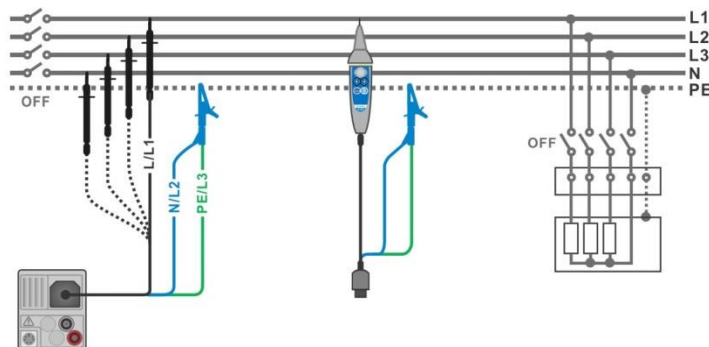
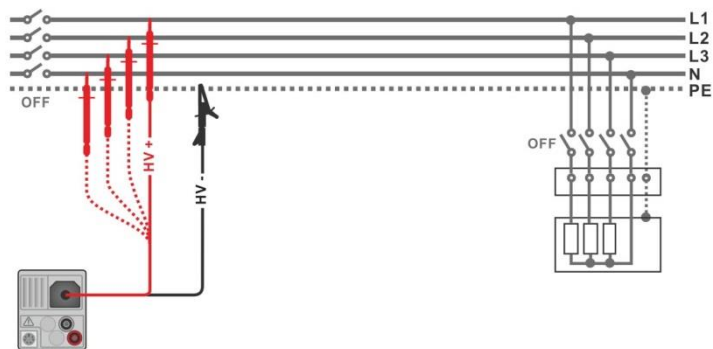

Figure 7.7: Connection of 3-wire test lead and Tip commander ( $U_N \leq 1$  kV)
Figure 7.8: Connection of 2.5 kV test lead ( $U_N = 2.5 \text{ kV}$ )
- ▶ Connect test leads to object under test (see **Figure 7.7** and **Figure 7.8**).